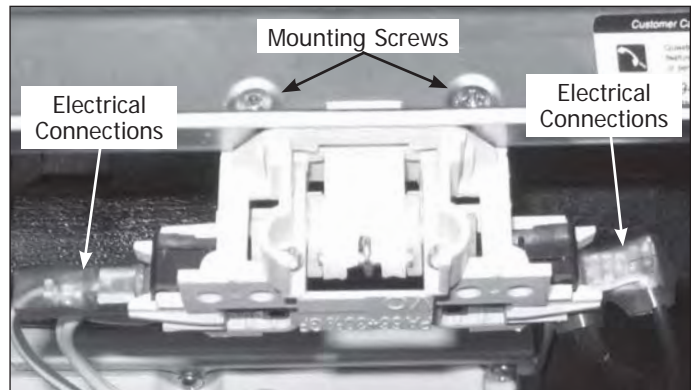

Figure 4-5.
3. Extract two screws mounting latch and selector switch from top of inner door panel. (See Figure 4-5)